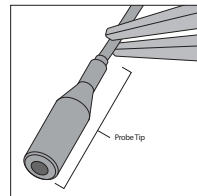

Figure 16
4. Inspect the probe tip to ensure that it is fully intact. (See Figure 16)